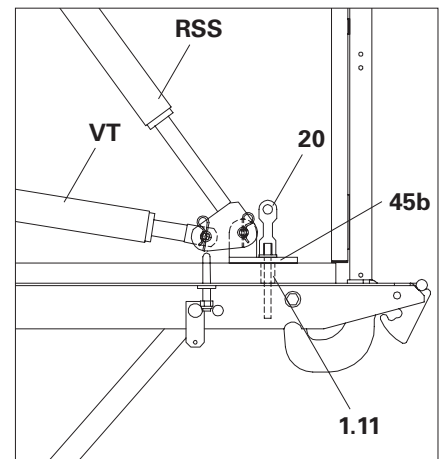

Fig. B2.03b
1. Bolt Base Plate-2 for RSS (45b) into the rear multi-purpose connector (1:11) with Push-Pull Prop Bolt FB (20).
2. Secure Push-Pull Prop RSS and Kicker AV with bolts and cotter pins. (Fig. B2.03b)